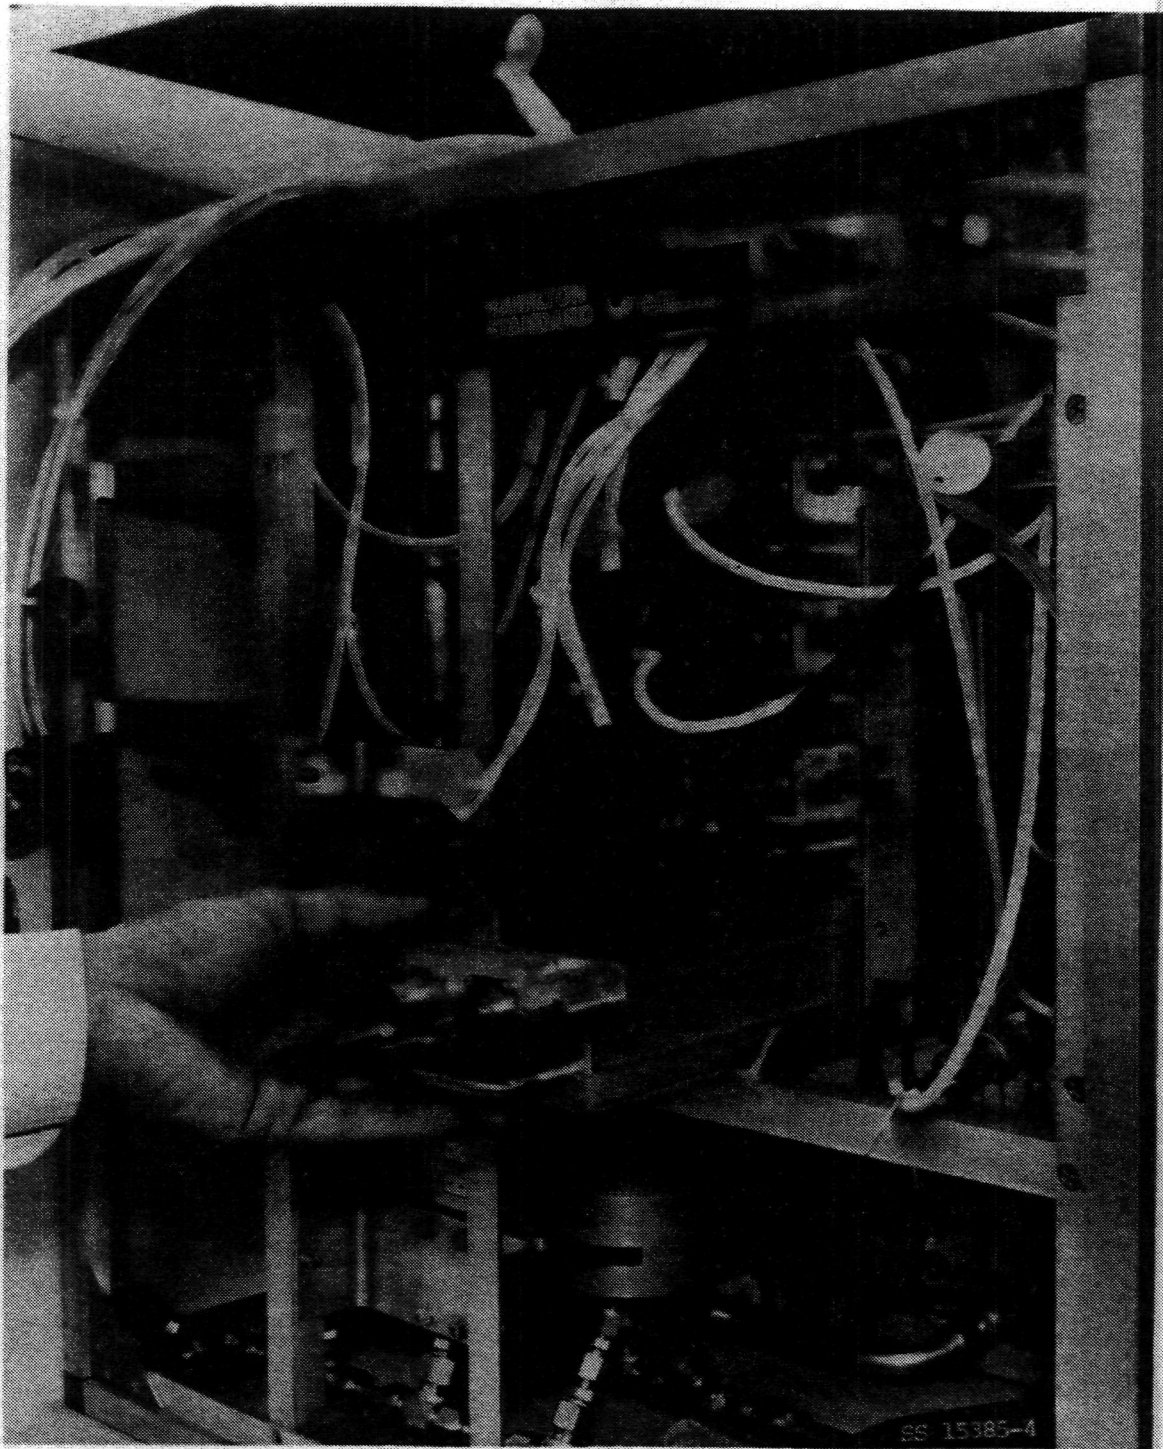

FIGURE 14
1. Disconnect two (2) electrical connector.
2. Loosen two (2) captive screws using either a 3/16" Allen wrench or a 3/8" Socket wrench.
3. Removal signal conditioner by grasping handle and sliding out of tray. (See Figure 14)